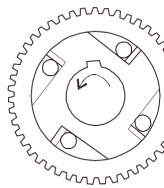

Figure 2-1
1. Be sure to install correct position and lubricate all the pins in figure 2-1.